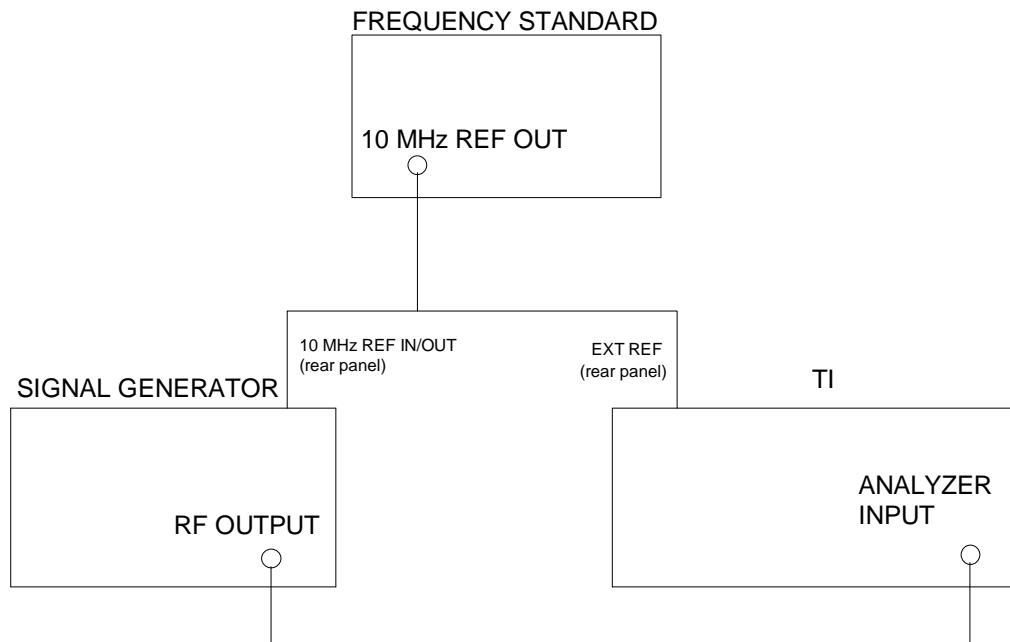

Figure 5.
4.14.2 Connect equipment as shown in Figure 5.